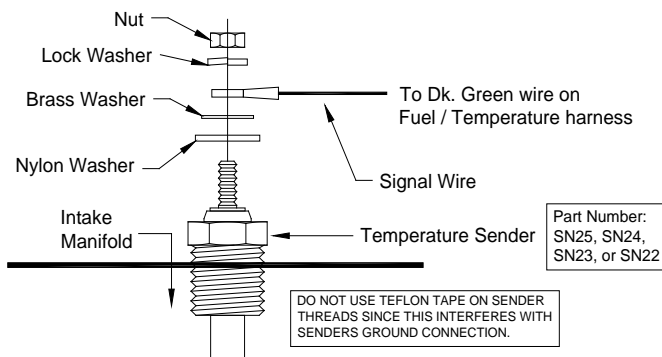

Figure 12
Step 4: Connect the temperature sender to the dark green wire (position D) of the fuel / temperature wiring harness. See figure 12 for wiring diagram.